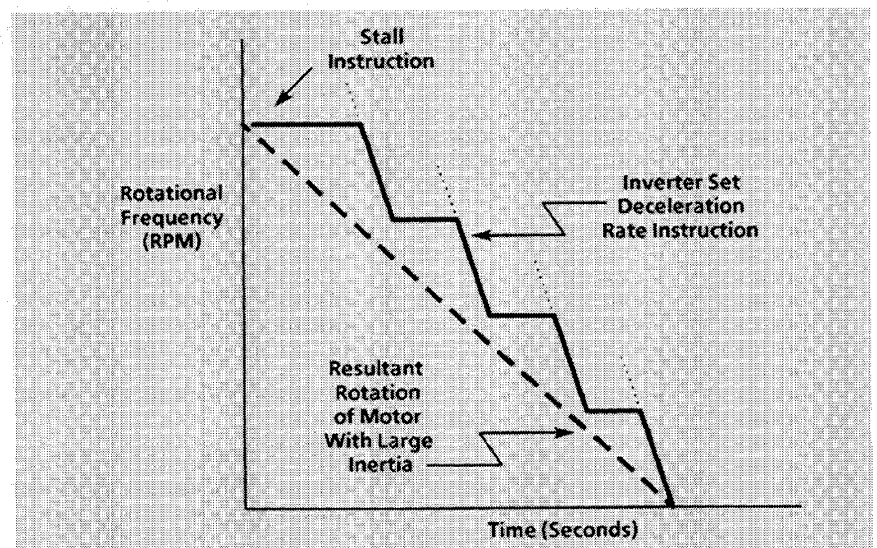

Figure 5-6. Deceleration Overvoltage Stall Protection
**ON \*** – The overvoltage stall protection circuit will stop Drive deceleration if the DC bus voltage exceeds the level listed in section 2.1. Deceleration will resume when the DC bus voltage drops back below the listed level. This will prevent the motor from regenerating too much energy back into the DC bus. In this way, the circuit will guard against, in most cases, overvoltage trips when the deceleration rate is too fast for the inertia of the system (refer to Figure 5-6).